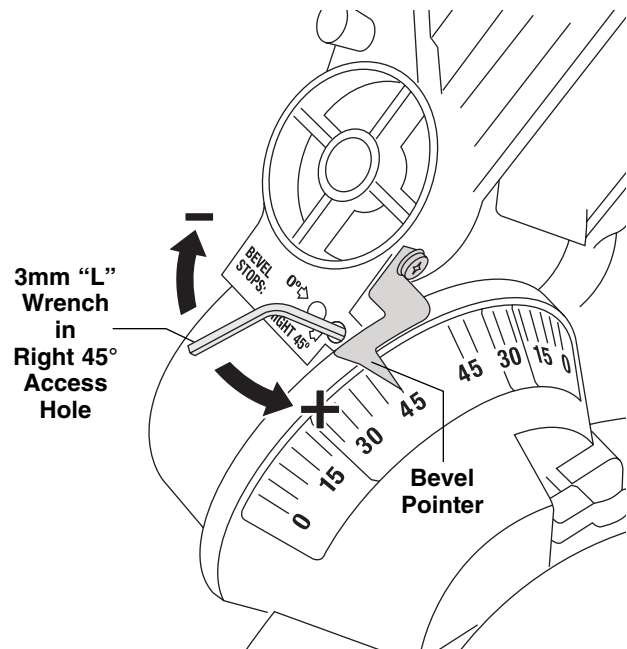

Figure 2. Right 45° Bevel Adjustment
4. Insert 3 mm "L" wrench into Right 45° hole in vertical support frame. (Figure 2)